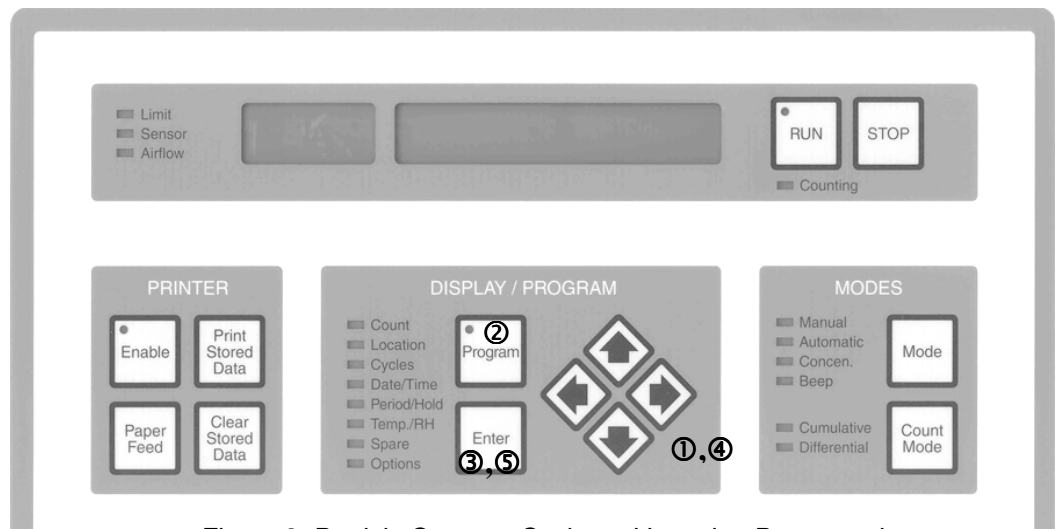

Figure 9. Particle Counter Cycle and Location Programming
1. At the Particle Counter (Figure 9), press ↓ until “Cycles” LED is Lit